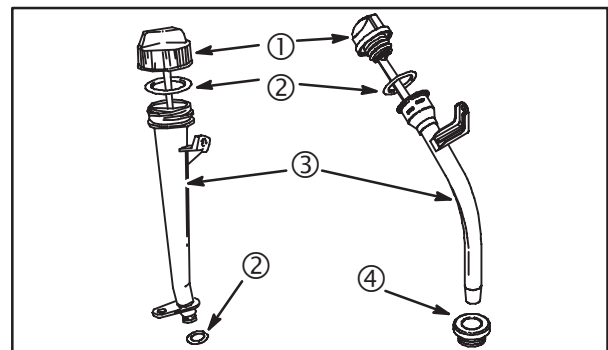

Fig. 17
The oil fill tube (3) and the dipstick (1) are equipped with O-rings (2) and/or a grommet (4) for proper sealing, **Fig. 17.**